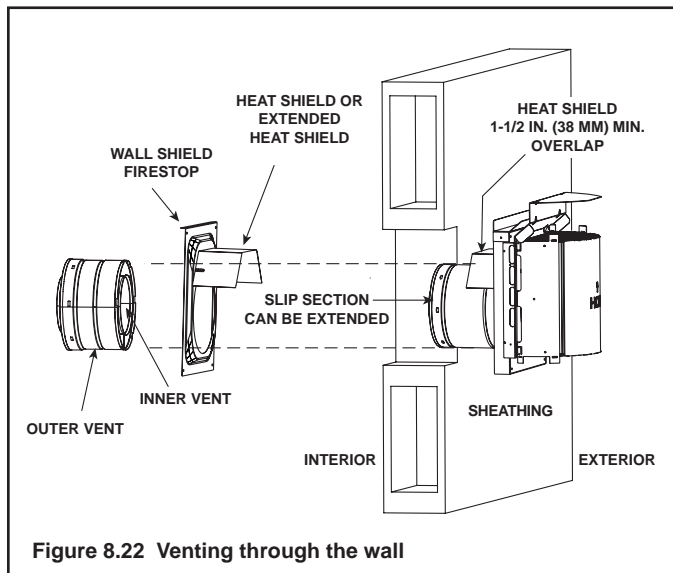

Figure 8.22 Venting through the wall
- **DO NOT** remove the heat shields attached to the wall shield firestop and the horizontal termination cap (shown in Figure 8.22).
There are two sections of the heat shield. One section is factory-attached to the wall shield firestop. The other section is factory-attached to the cap. See Figure 8.22.